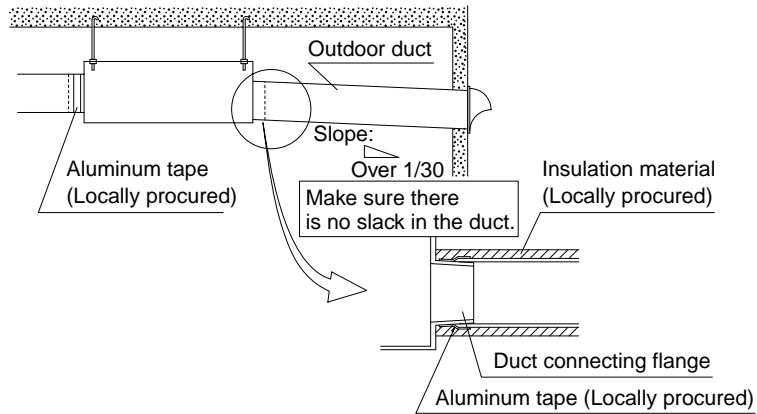

Fig. 16
- To prevent air leakage, wind aluminum tape round the section after the duct connecting flange and the duct are connected. **(Refer to Fig. 16)**
- Install the two outdoor ducts with down slope (slope of 1/30 or more) to prevent entry of rain water. Also, provide insulation for three ducts (Outdoor ducts and Indoor supply air duct) to prevent dew condensation. (Material : Glass wool of 25mm thick) **(Refer to Fig. 16)**
- Using flexible or silent ducts can be effective in reducing the air discharge sound of the supply air to room (SA). Select materials keeping in mind the fan strength and operating sound of the unit. Consult your Daikin dealer for selection.
- Set the pitch between the exhaust air outlet (EA) and the outside air intake (OA) to 3 times the duct diameter.